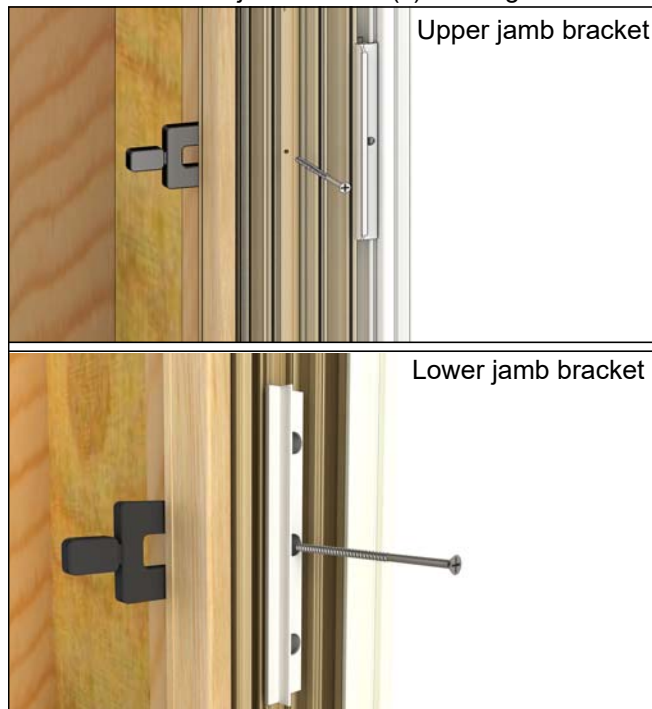

Figure 1
1. Operator units that have performance brackets require a screw through jamb in pre-marked hole adjacent from upper jamb bracket(s) and through center of lower jamb bracket(s). See figure 1.